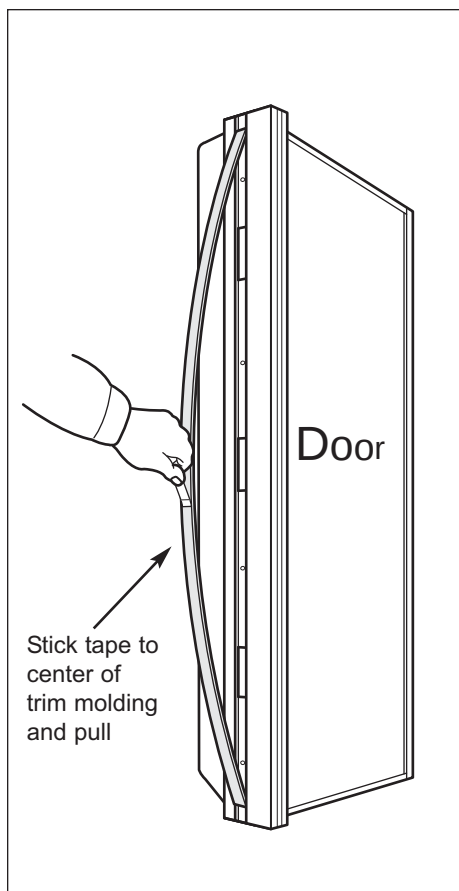

Figure 2-8. Molding Removal
1. Using a piece of tape stuck to magnetic trim molding center, pull trim molding out at midpoint to expose handle/trim mounting screws (See Figure 2-8).